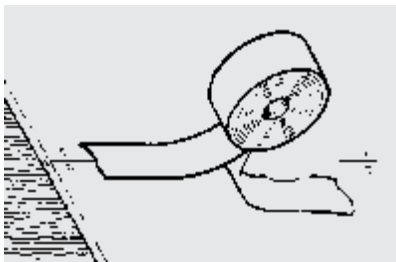

Figure 2.
3. Remove release liner while pressing flashing firmly along the joint. (Figure 2)